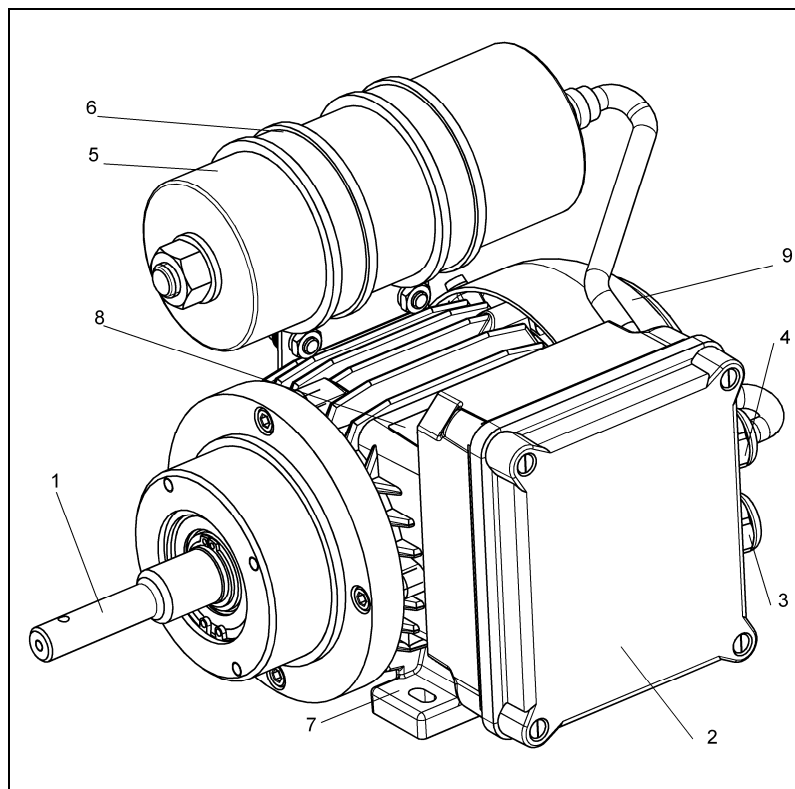
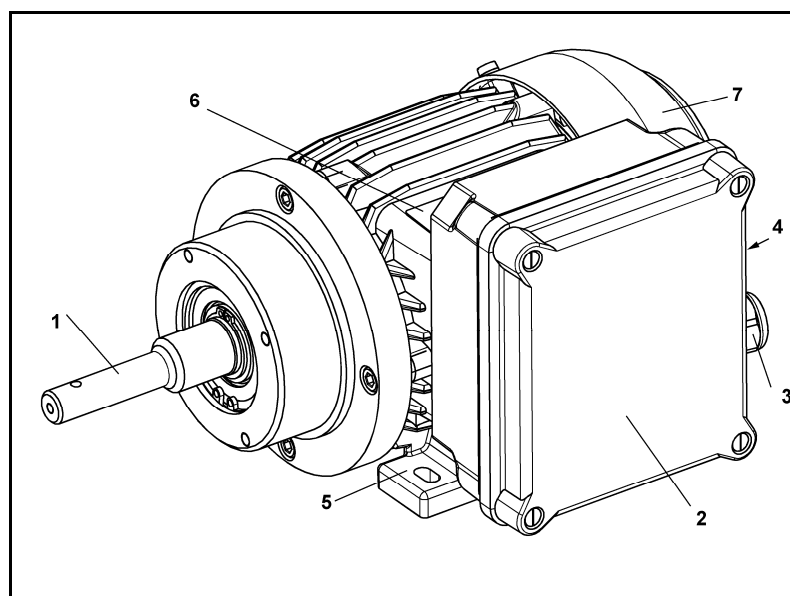

Fig. 1: KNF capacitor motor M 56 Ex
Fig. 2: KNF 3-phase motor M 56 Ex
2. Open terminal box cover (see Fig. 1/2, page 11 and Fig. 2/2, page 11).
For connection to the mains supply, the terminal box contains a terminal board and a screwed cable gland with a M 16 x 1.5 thread (Fig. 1/3, page 11, and Fig. 2/3, page 11). The clamping range of this screwed cable gland is between 5 and 10 mm.